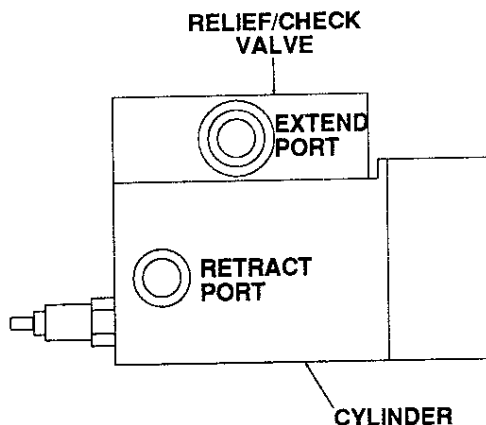

Figure G1-12. EXTEND & RETRACT PORTS
2. Connect extend hose to valve block port at base end, side port. See Figure G1-12.
3. Connect retract hose to the base end, side port. See Figure G1-12.